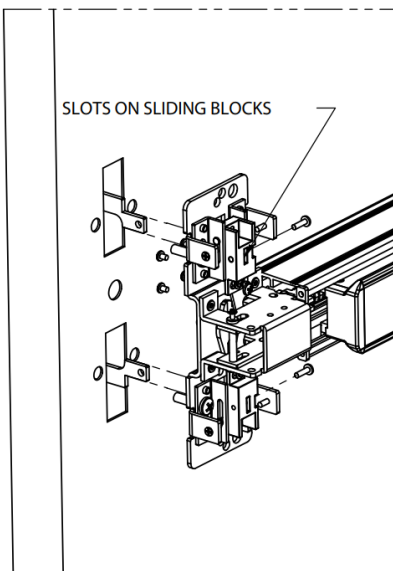

FIGURE 10-1
- B. Place the exit device on the door and align the latch actuated links with the slots in the sliding blocks (see Figure 10-1). Secure with supplied screws.